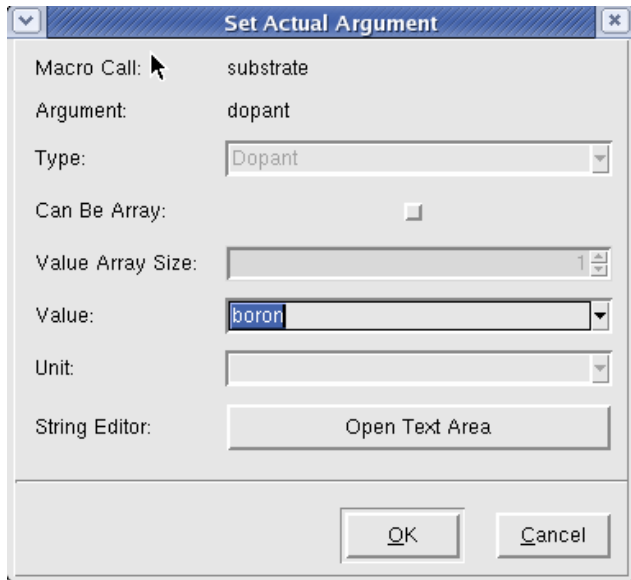

Figure 36: Setting the substrate doping type to boron.
7. Click on Substrate and double click on dopant type and set it to Boron (Figure 36).